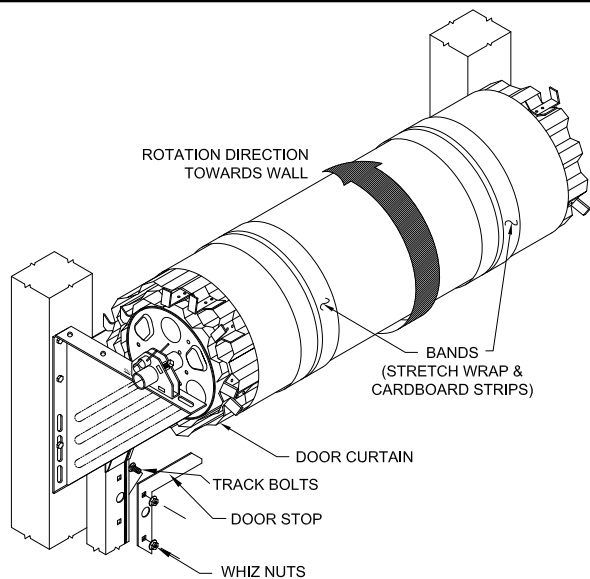

**Figure 12**
7.1 Position the guides against the jambs according to the clearance shown in Figure 10 (Figure 11 if windlock model). Loosely fasten the top of each guide to the door jamb. This will allow slight adjustment of the guides as the door installation is completed (guides on doors 14'-10" and taller will have a splice). **DO NOT** install the remaining fasteners until such time as the adjustment is true. Level one guide and loosely install a second fastener in the bottom hole. If mounting to masonry, install clips provided as shown in Figure 12. Align the clips with the holes along the length of the guide and flush with the back of the guide. (Anchors by others).